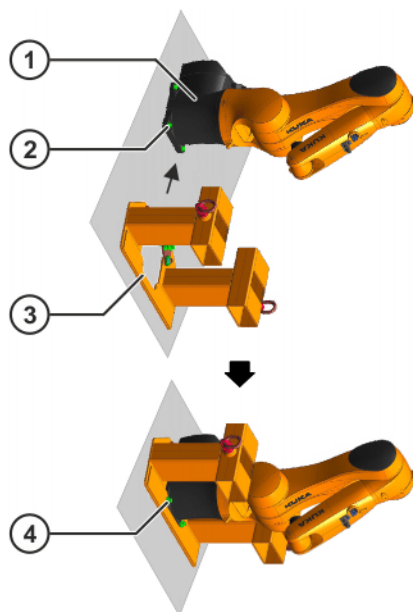

Fig. 11-4: Fastening the Load Lifting Attachment to the robot
11. Carefully push the Load Lifting Attachment onto the base frame of the robot from underneath (>>> Fig. 11-4).